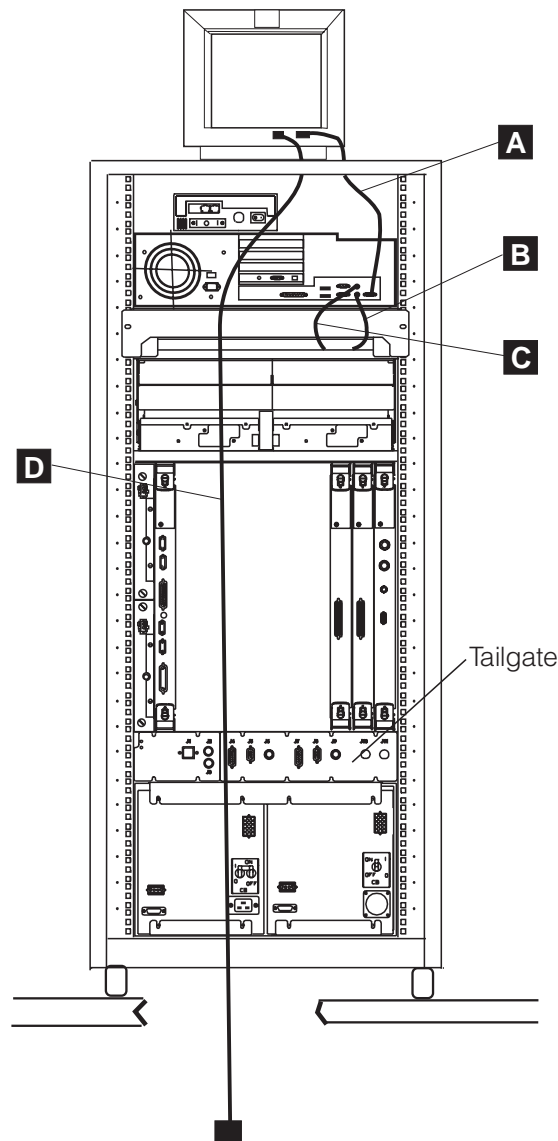
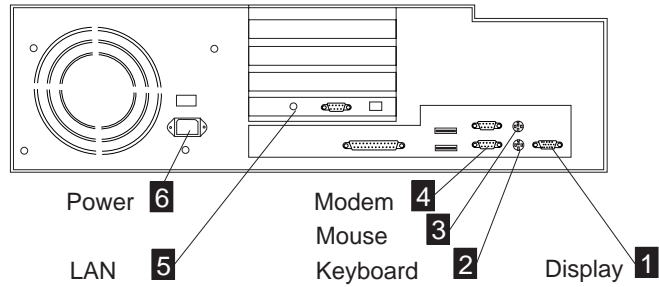

Figure 1-30. Display and Keyboard Cables Connection to the NAS
Figure 1-31. NAS Connectors
1. ____ At the rear of the rack (refer to Figure 1-30 to route and locate the cables and refer to Figure 1-31 on page 1-26 to locate the connectors at the rear side of the NAS), plug the cables as follows: